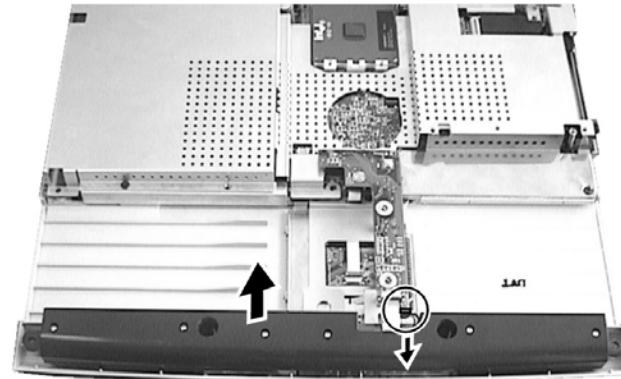

Figure 2-24
7. Lift up the speaker assembly and disconnect the cable. (figure 2-24)